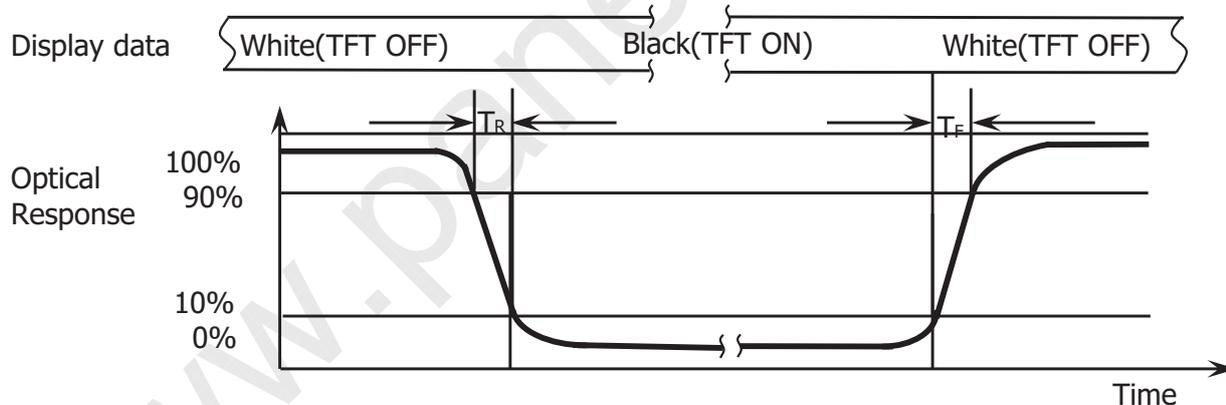

Figure 10. Response Time Testing
- The electro-optical response time measurements shall be made as Figure 10 by switching the "data" input signal ON and OFF. The times needed for the luminance to change from 10% to 90% is T_f , and 90% to 10% is T_r .
The electro-optical response time measurements shall be made as shown in Figure 10 by switching the “data” input signal ON and OFF. T_r : The luminance to change from 10% to 90% , T_f : The luminance to change from 90% to 10% .